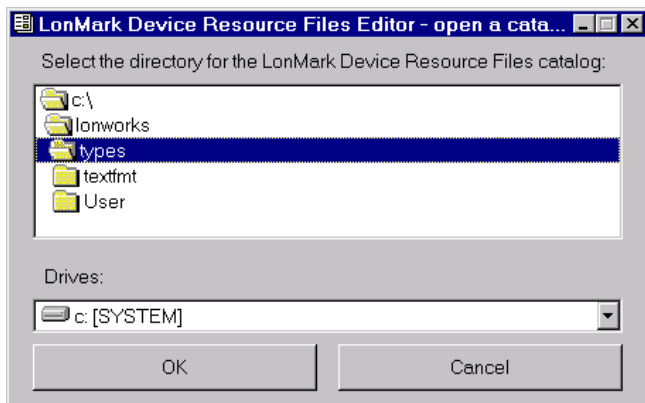

FIGURE G-2. NAVIGATING TO THE RESOURCE FILES DIRECTORY
- c. Navigate to the directory in which the resource files are stored (c:\Lonworks\Types\” in this example.) Select “OK” (see Figure G-2).